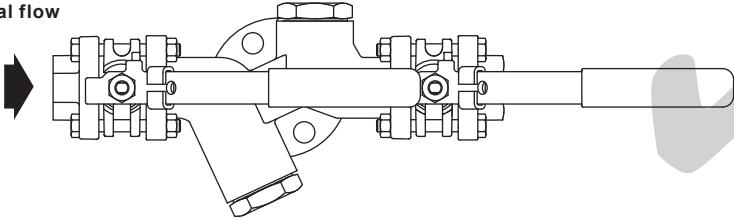
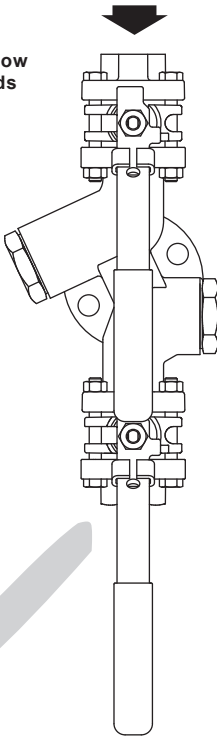

Fig. 4a
Fig. 4b
3.11 The Compact Trapping Module can be installed in a horizontal line (Figure 4a), or in a vertical line (Figure 4b) with flow downwards.